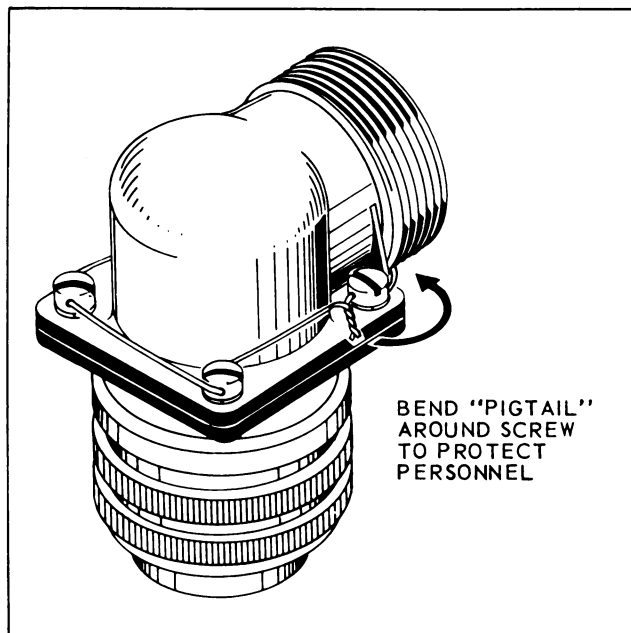

Figure 13-2. Single Wire Method
13-11. SINGLE WIRE METHOD. When necessary, use single wire method of safety wiring as illustrated in Figure 13-2, in the following cases:
- For small screws in a closely spaced pattern, as illustrated in Figure 13-2.
13-20. SAFETY WIRING SOLID SHELL ANGLE PLUGS. Angle plugs with solid back shells as made by Amphenol are in two parts, held together by four screws through mating flanges. Safety wire these screws with a single wire as shown in Figure 13-2.